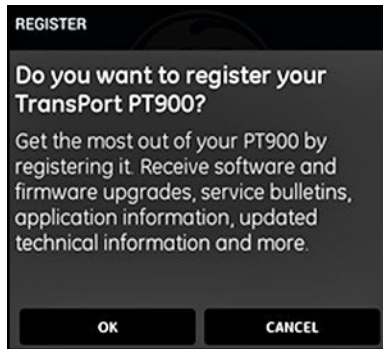

Figure 61: PT900 APP License Agreement
- At the License Agreement screen (see Figure 61 below), read the agreement and then click AGREE to continue with the APP installation or click CANCEL to stop the APP installation.